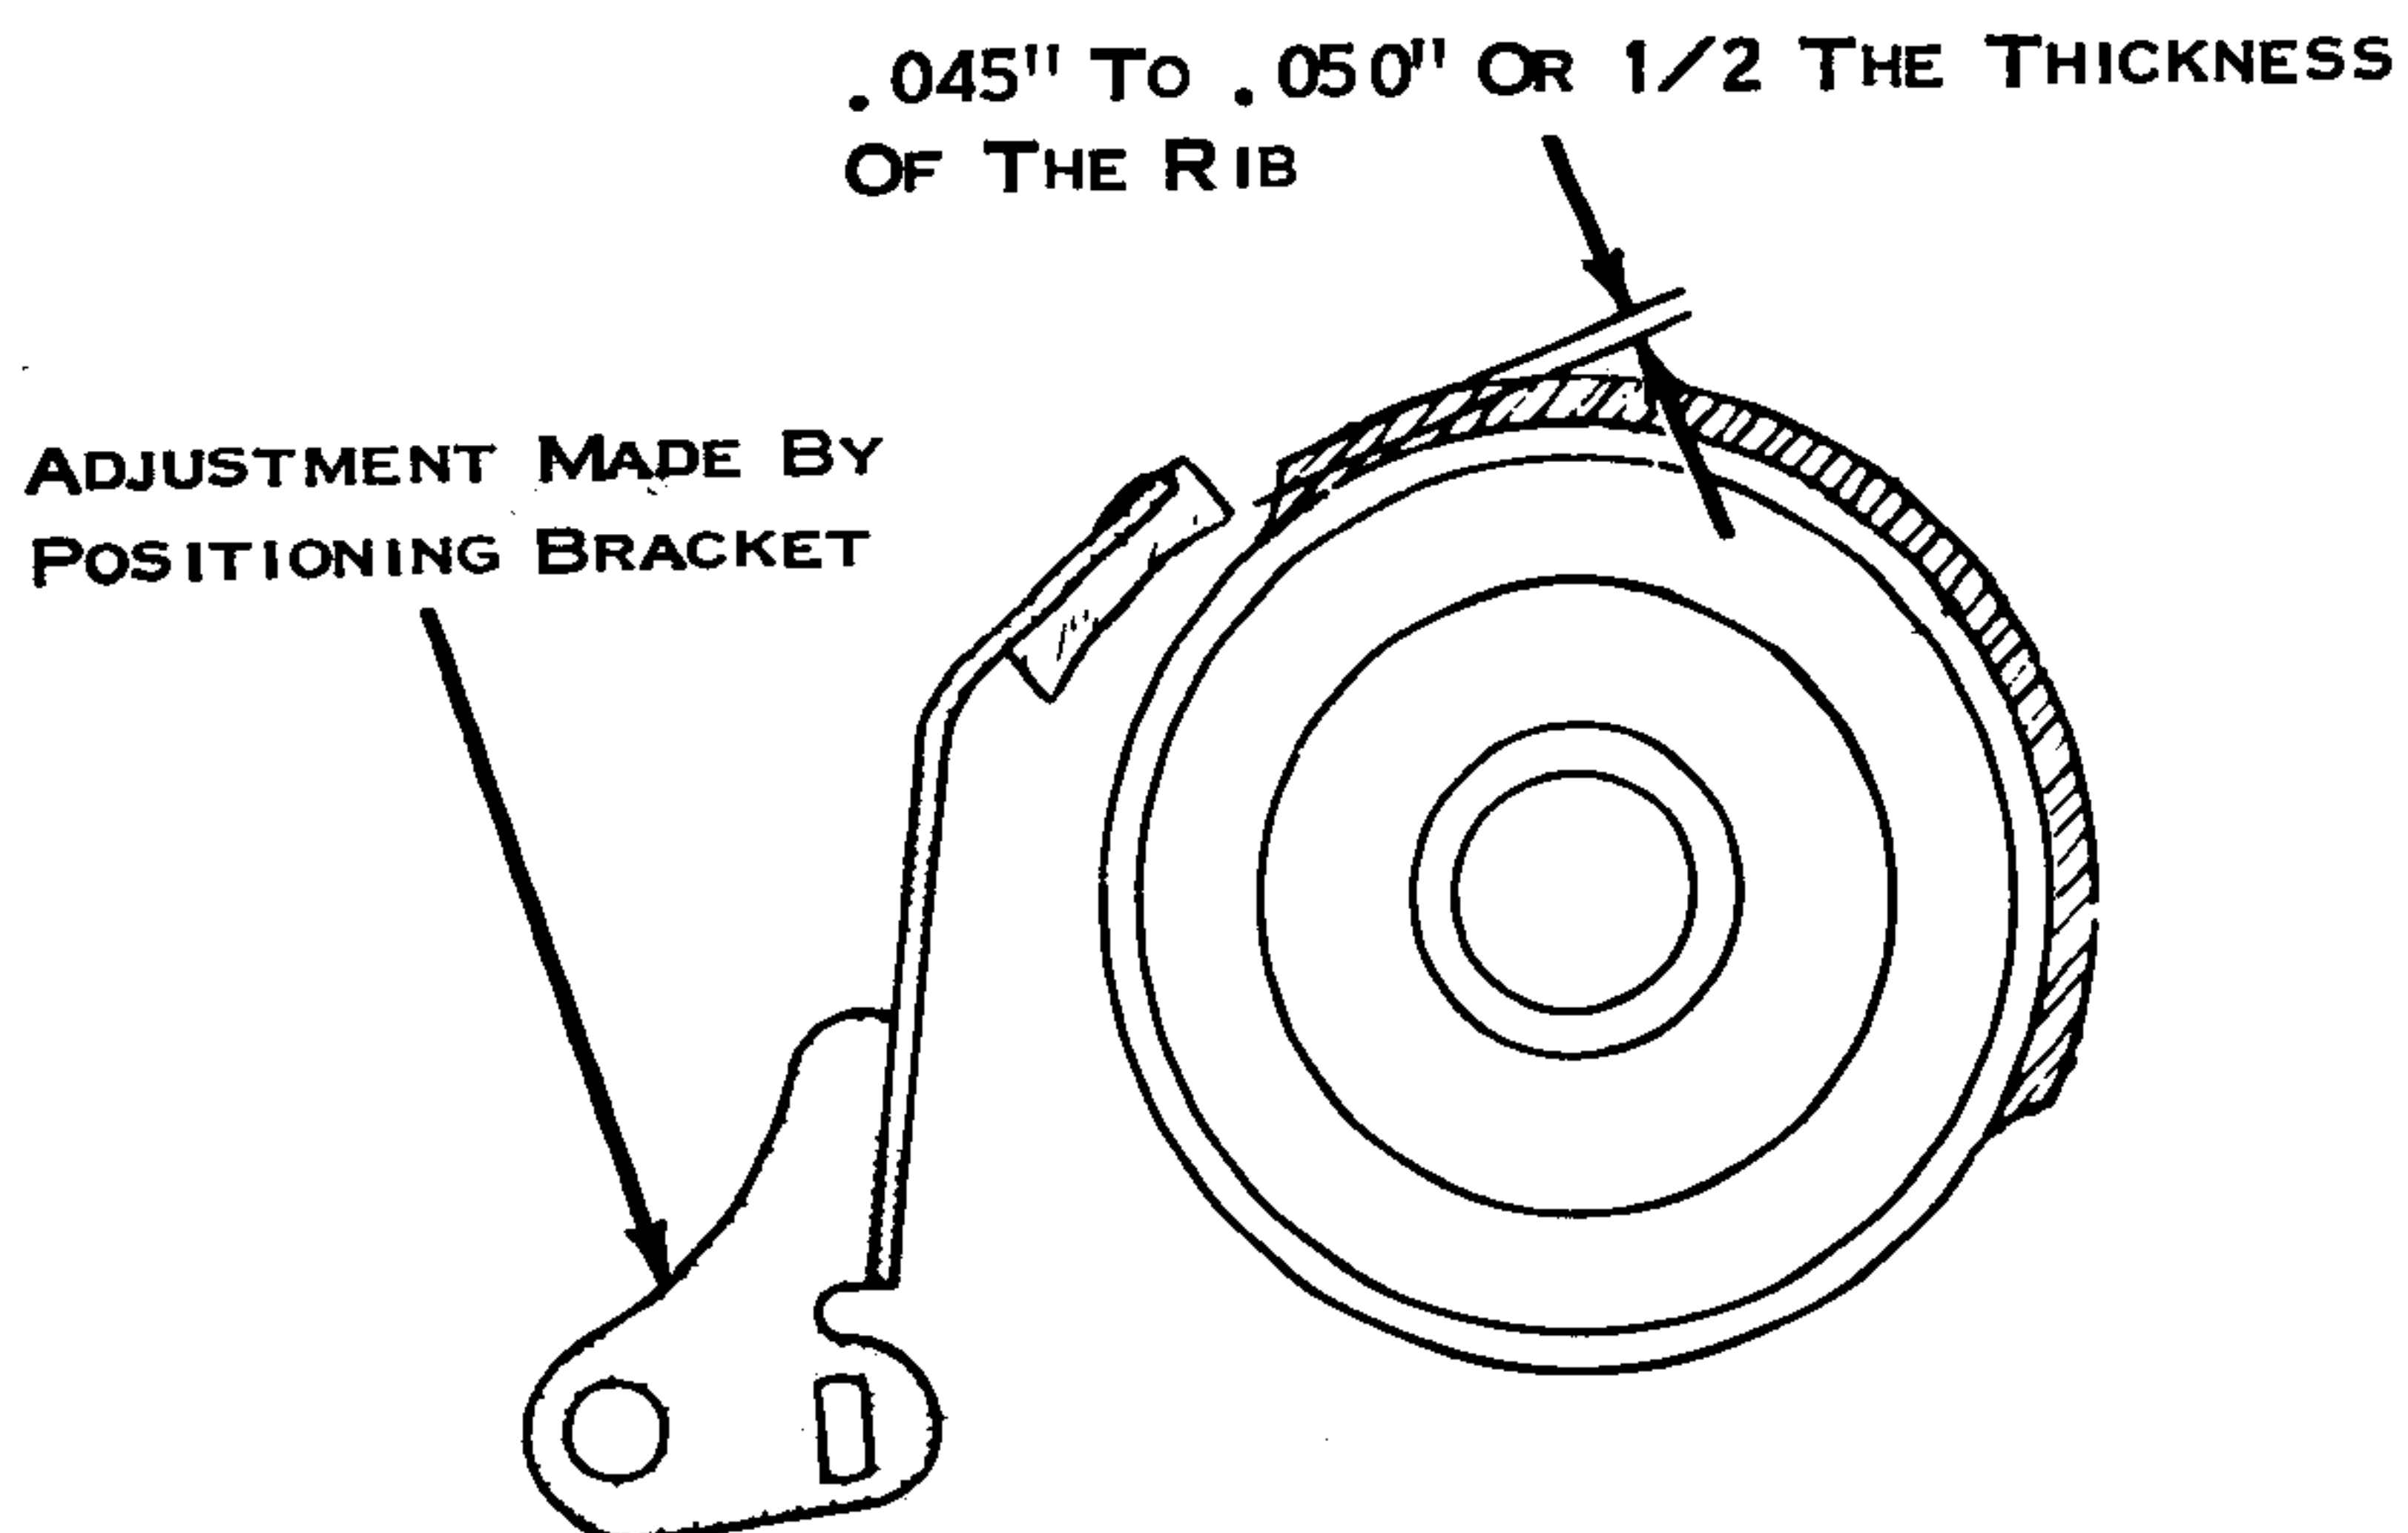

Figure 88. Shift Cam Brake
4. Shift Cam Brake (Fig. 88) - The shift cam brake should be adjusted to have  $.045''$  to  $.050''$  bite on the braking rib of the cam. That is approximately one half the thickness of the rib.